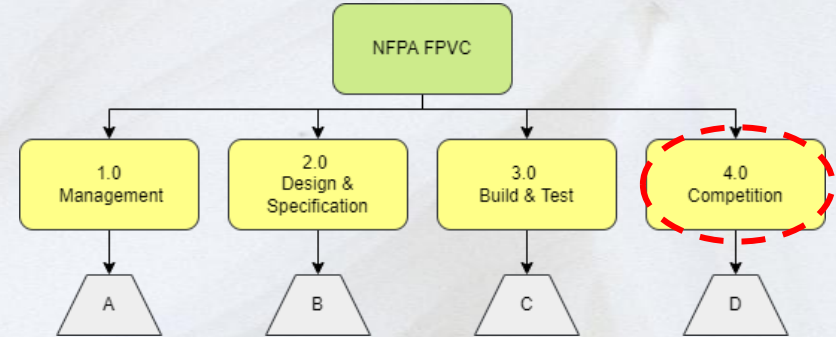

Figure 7. Work breakdown structure (WBS)
- Work Breakdown Structure (Figure 7)